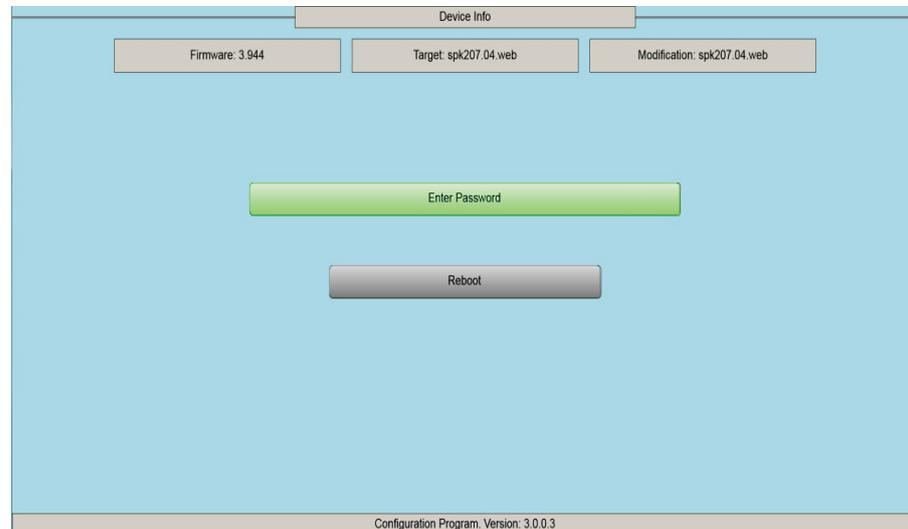

Fig. 7.2 Configuration Mode - Main Screen
- The access is password protected. Enter the password using the on-screen keyboard on the Main Screen (Fig. 7.2). The default password is **12345**. Use the **Shift** key as a Caps Lock key.